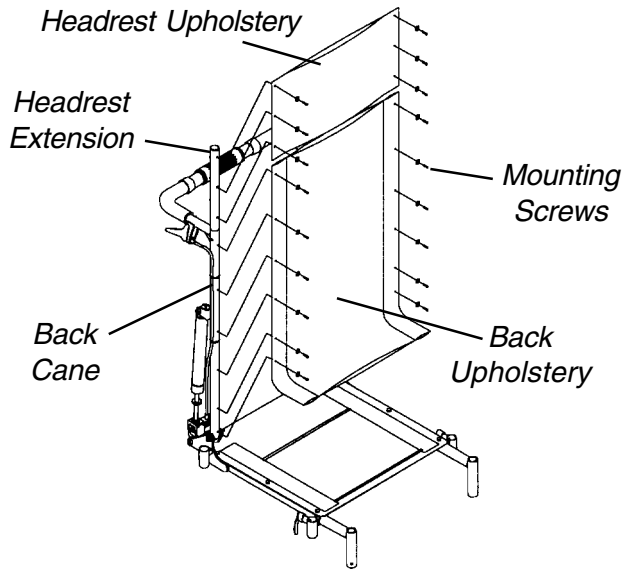

FIGURE 2 - REPLACING BACK OR HEADREST UPHOLSTERY
**REPLACING BACK OR HEADREST UPHOLSTERY (FIGURE 2)**
1. Remove the ten (10) or twelve (12) mounting screws (depending on back height) that secure the back upholstery to the back canes.
4. Install the ten (10) or twelve (12) mounting screws (depending on back height) that secure the back upholstery to the recliner back canes.